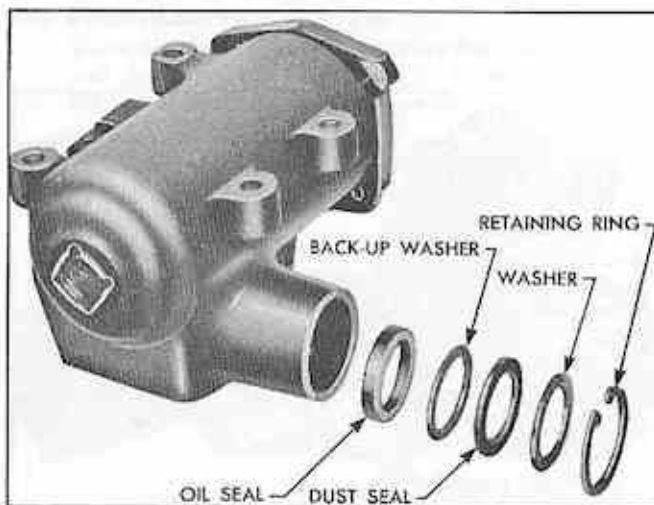

Fig. 66 Pitman Shaft Oil Seal - Exploded View
1. Remove pitman shaft seal retaining ring using snap ring pliers J-4245 (Fig. 66).